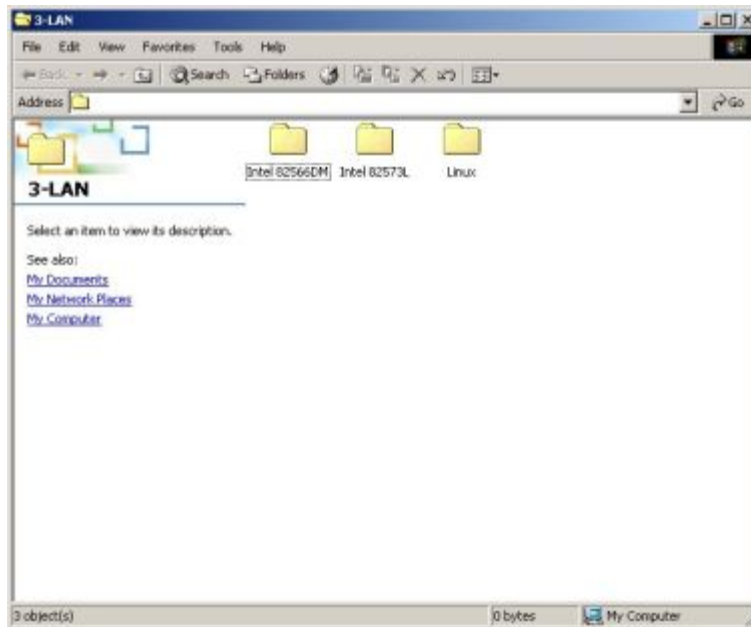

Figure 6-19: Intel® 82573 Driver Directory Icon
Step 2: The window in **Figure 6-19** appears.
Step 3: Click on the Intel® 82573L directory icon in Figure 6-19.